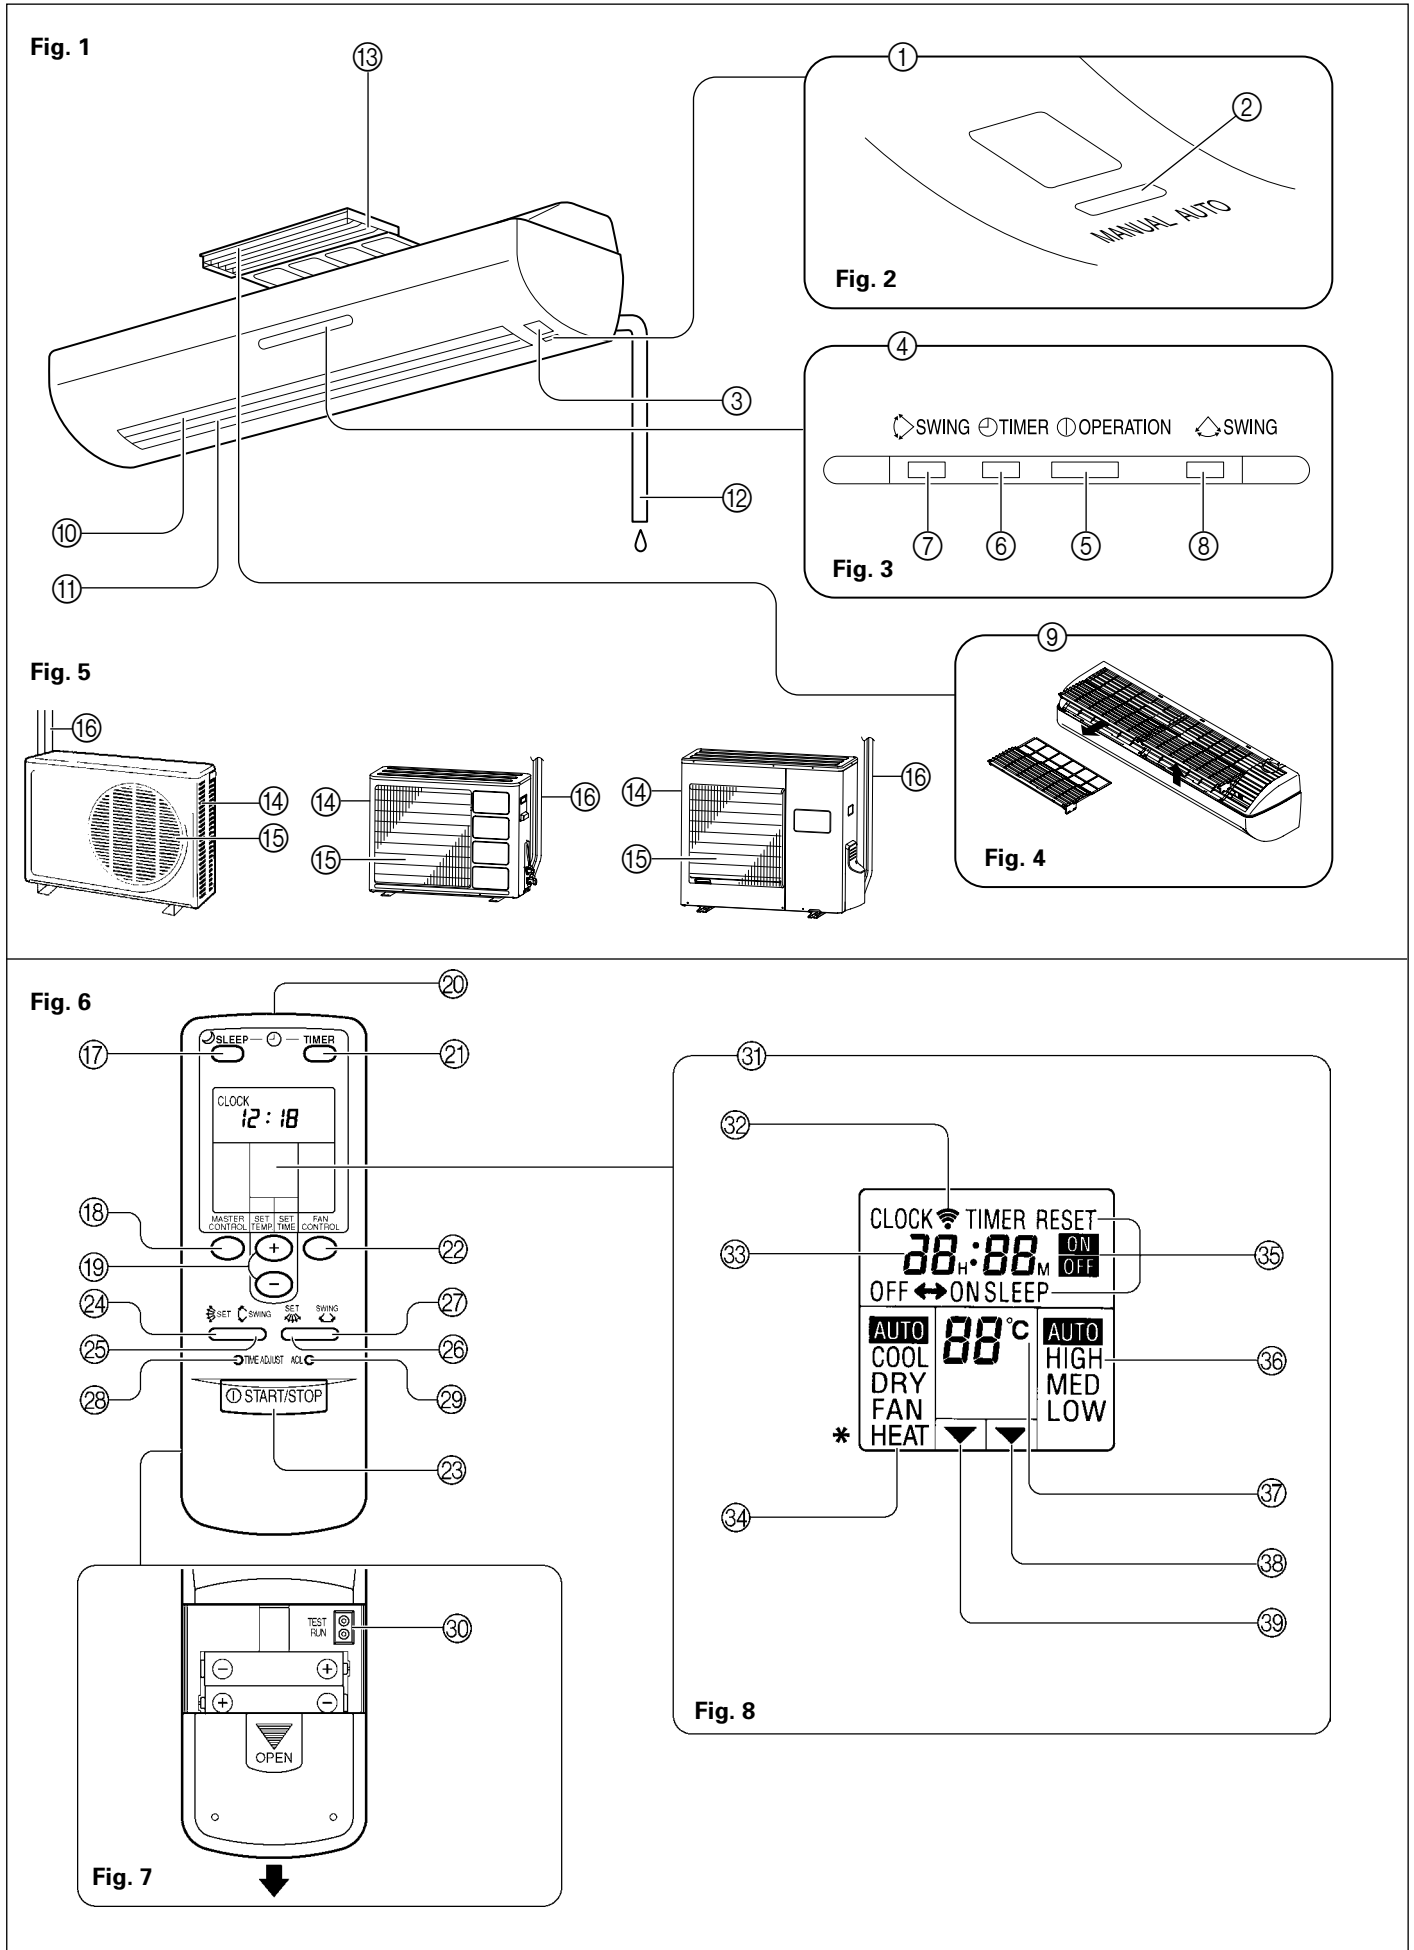

Fig. 1 Indoor Unit
- The remote control unit must be pointed at signal receiver (Fig. 1 ㉓) to operate correctly.